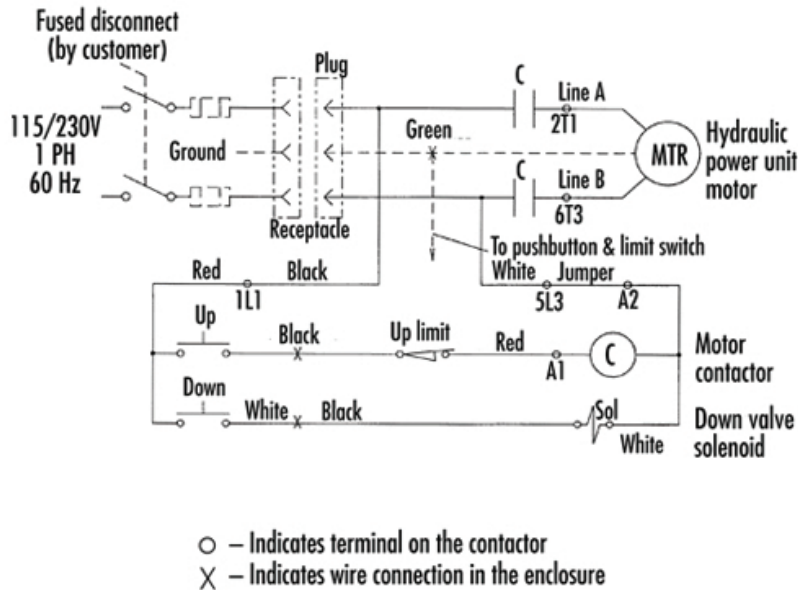

Fig. 7 – Wiring Diagram, Lifts Wired for Single-Phase AC
- Place the load in the center of the dock lift, as shown in Figure 7.
The warning labels on the lift are there for your safety. If you find that the labels are worn or missing, or have been painted over, ask Maintenance to replace the labels before you use the lift. The labels are shown in Figure 7.